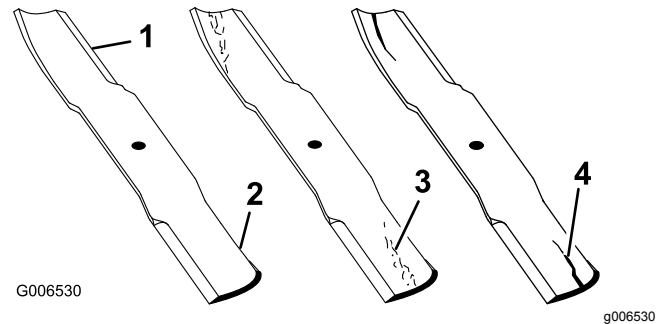

Figure 95
1. Inspect the cutting edges (Figure 95).
4. If you notice any cracks, wear, or a slot forming in this area, immediately install a new blade (Figure 95).